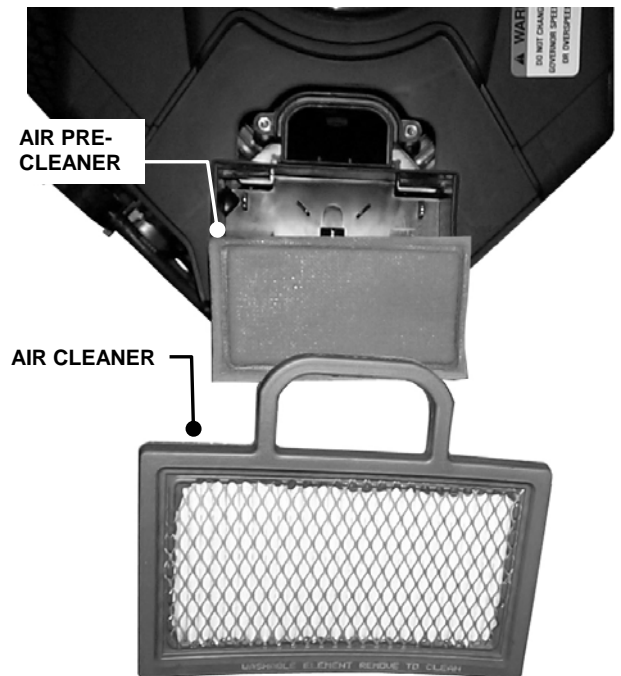

FIGURE 3.5
- b. Refer to engine owner's manual for cleaning and service instructions. Remove and clean engine air pre-cleaner. Remove and replace engine air cleaner. See Figure 3.5. Install pre-cleaner and air cleaner per engine owner's manual.